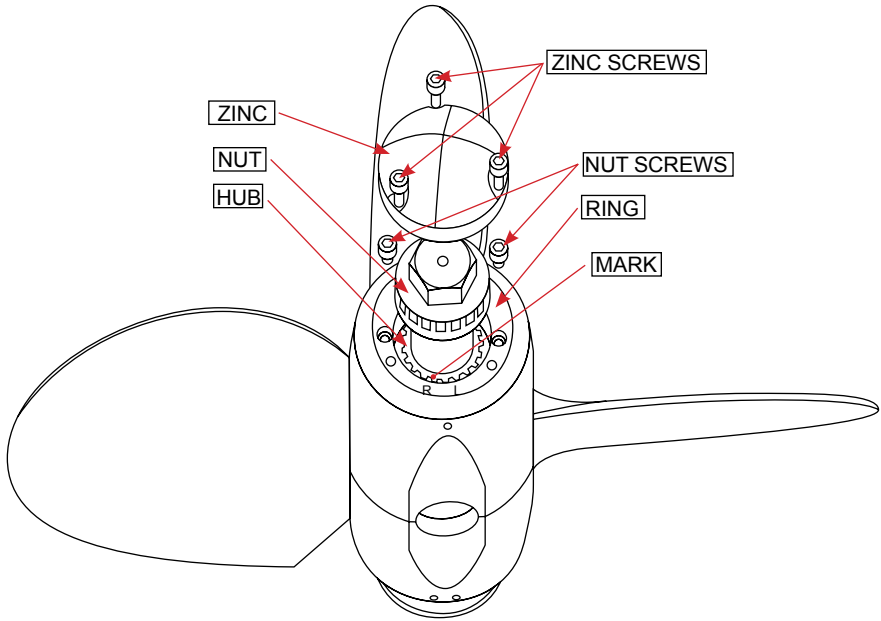

Fig.6
With the MAX PROP EASY® it is also possible to change the rotation, e.g. if you change the engine, or if there was a mistake when ordering the prop. If you have doubts about the engine rotation, it can be determined looking forward from the stern of the boat. With the engine in forward position a clockwise rotation of the propeller means it is right handed (R), and a counter-clockwise rotation is left handed (L). In order to change the rotation of the MAX PROP EASY®, from a right hand rotation to a left hand rotation or vice versa do as follows, referring to fig.6